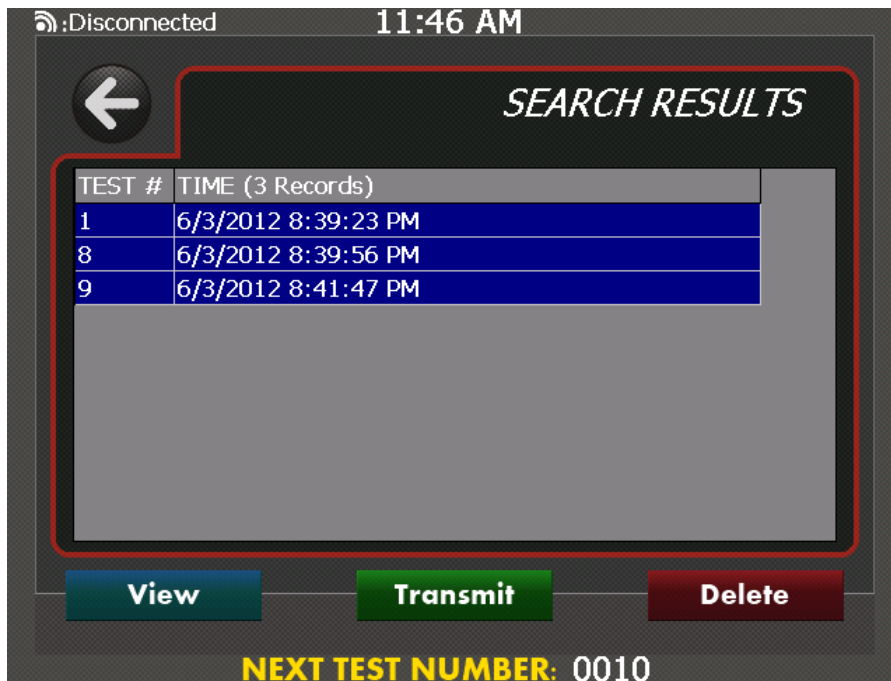

Figure 5.4.2. SEARCH RESULTS menu.
- 5) Select or deselect the items in the *SEARCH RESULTS* menu (Figure 5.4.2) and press the *VIEW* button or press *Transmit* to send to the remote server.